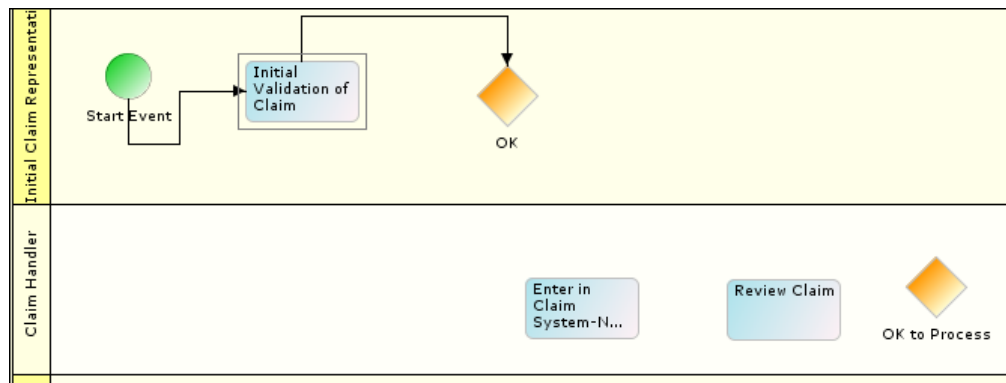

Figure 19: Connecting BPMN Elements
2. Drag the cursor between two BPMN elements. Both BPMN elements are connected with the selected flows (see Figure 19).